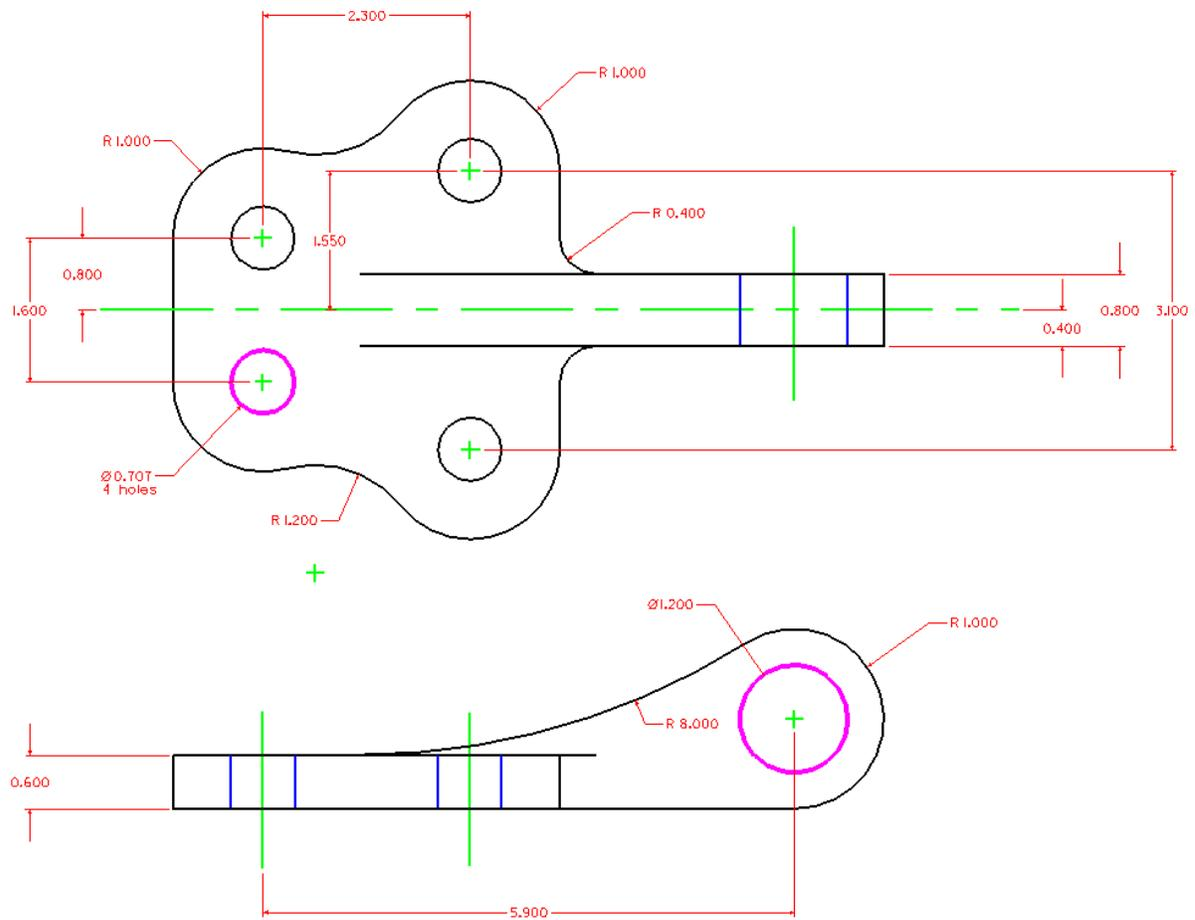

Figure 11.05 – Using the Diameter Dimension and Edit Text Tool
There are two diameter dimensions for the Bracket problem. You need to identify the one on the top view and the other in the front view. Select the Dimension Diameter tool from the Radial Dimension toolbox. In Figure 11.05, you can see the two circles shown in magenta. There are 0.707" and 1.2" circles to dimension. After placing both dimensions in the drawing, you will want to add the text "4 holes" to the 0.707" hole diameter.
Select the Place Text tool from the Text toolbox. Type “4 holes,” and then place it below the 0.707 dimension. Next, switch to the Center level using the Level drop box and place a center mark on the 1.2” radius using the Center Mark tool, as shown in Figure 11.05.
*** World Class CAD Challenge 02-22 * - Create a New, and draw the entities shown in Figure 11.05 in 10 minutes. Continue this drill four times, each time completing the drawing under 10 minutes to maintain your World Class ranking.**